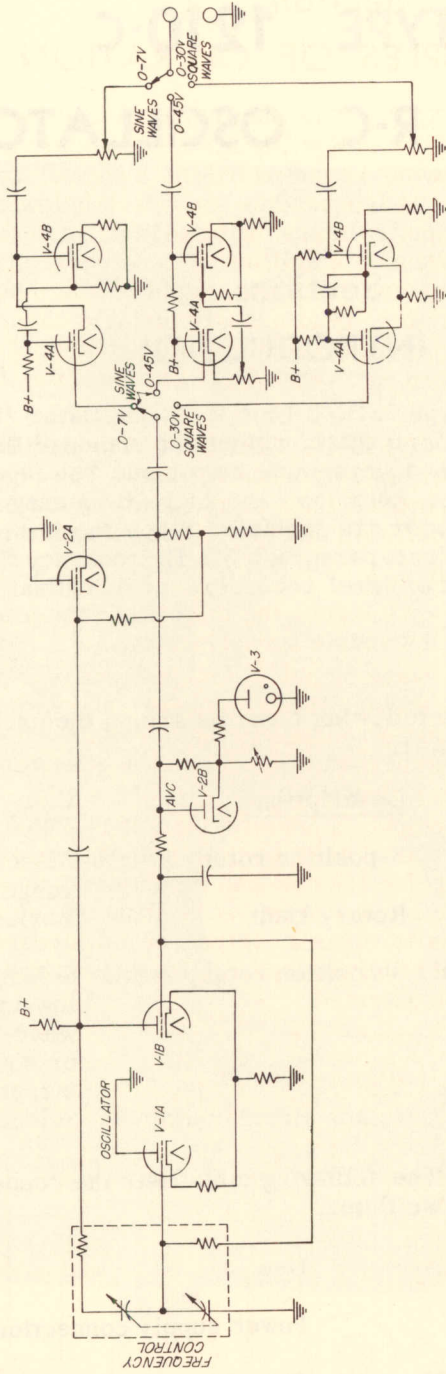

Figure 2. Elementary Schematic Diagram for Type 1210-C Unit R-C Oscillator.
2.1 OSCILLATOR CIRCUIT. The oscillator circuit is essentially a series-parallel R-C network. (See Figure 2.) At operating frequency, the voltage from the network is one-third the input voltage, and of the same phase as the input. At frequencies above and below operating frequency, the output and input voltages differ in phase and the attenuation is greater than 3 to 1. When an amplifier of zero phase shift and a gain of at least 3 to 1 is connected from the output to the input of the R-C network, the circuit oscillates. Continuously variable capacitors provide at least a 10-to-1 frequency range, and resistor switching provides five decade ranges. Resistors are deposited-carbon-film type for high stability.